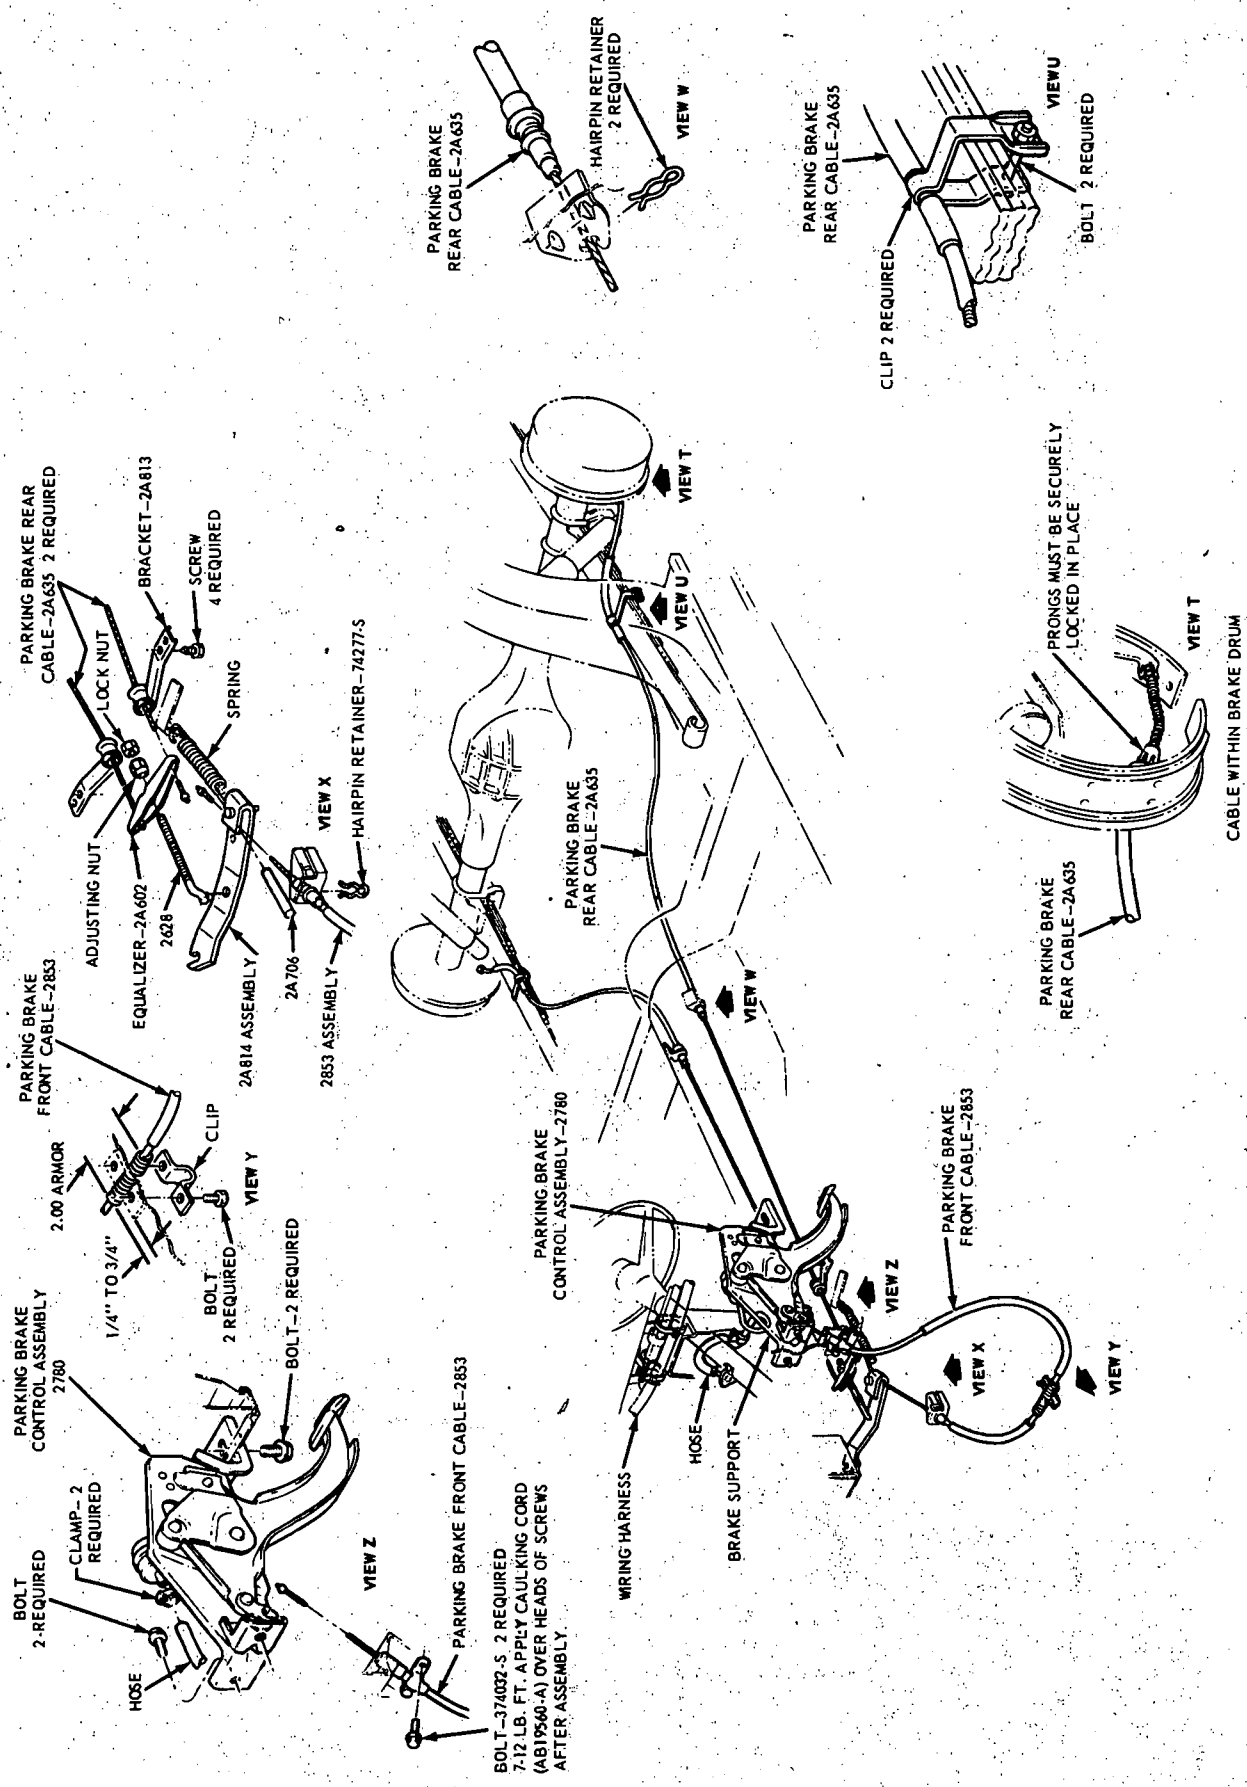

FIG. 38 Parking Brake System—Lincoln Continental
Refer to Fig. 38.
1. Raise the car on a hoist. Disconnect the parking brake cable from the equalizer lever underneath the car (Fig. 38).
2. Remove the retaining clip at the cable bracket, and disengage the cable from the bracket (Fig. 38).